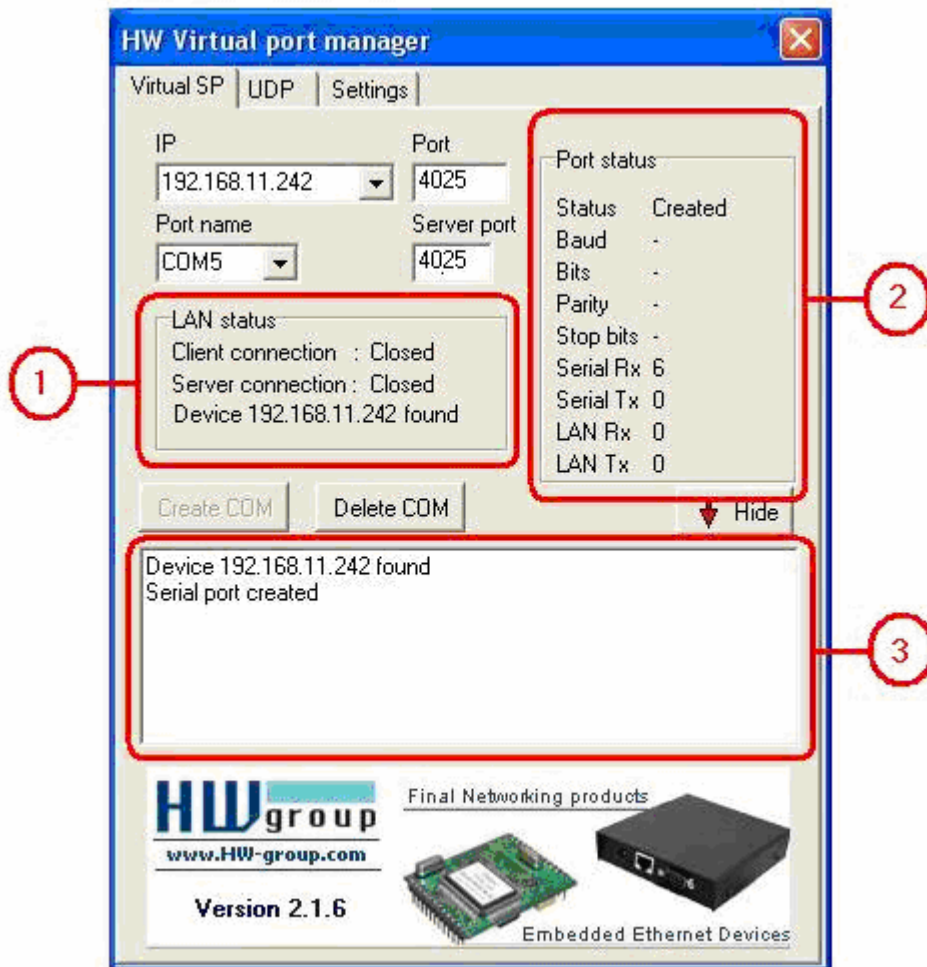

Figure 3-5 Status of VSP after Connect Com Port
- LAN Status (No.1 in Figure 3-5): Identify status of LAN connection.
- Port Status (No.2 in Figure 3-5): Identify status of port.
- **Status Edit** (No.3 in Figure 3-5): Identify data of connection.